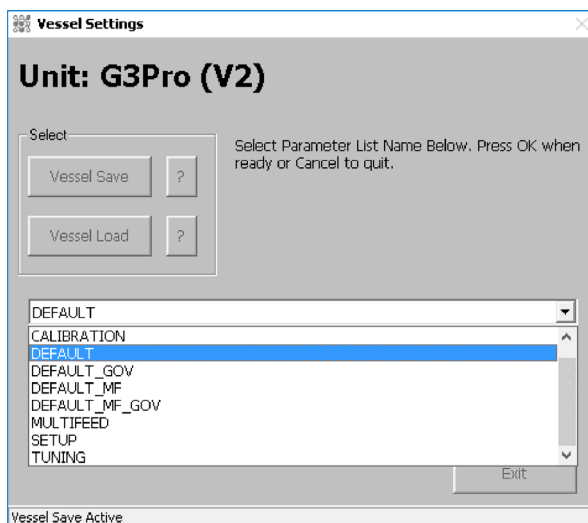

Figure 3.5. Selecting a category to use as save file.
2. Select the category to be used for the save file (Figure 3.5). The **DEFAULT** category may be used.